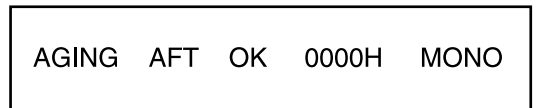

Fig. 1
- Press the "TEST" key on the jig remote controller once to enter to the "Aging Mode" (Refer Fig. 1).
1. Enter to the aging mode by pressing the "TEST" key on the remote controller. (Fig. 1)